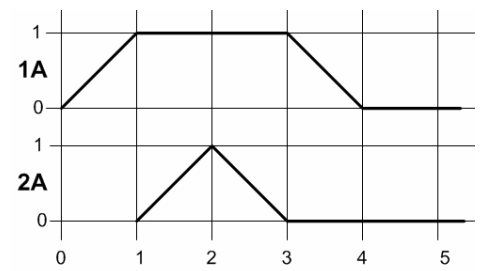

Fig.3
- Q.5 (a)** (i) Plastic parts are to be placed in a holding fixture and stamped pneumatically. The cylinder 1A pushes the holding fixture under the stamping cylinder 2A. After the stamping operation, the stamping cylinder 2A returns immediately to its initial position. Finally cylinder 1A returns. Draw the pneumatic circuit by cascade method. Position step diagram is given in Fig.3 **04**